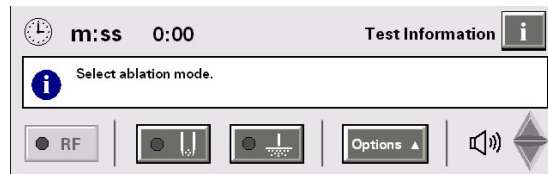

Figure 6.
1. Press the Test Information button  from the Service Menu (Figure 6) to enter Test Mode.